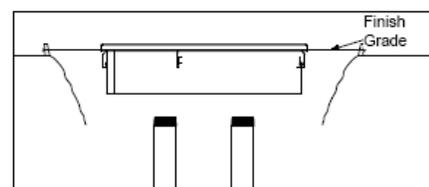

Figure 2
2. Set multi-port manhole assembly (skirt, ring, and cover) to 1 inch minimum (for slope) above the final grade position. The weight of the multi-port assembly must be supported when set into place, this may require a partial backfill and support structure. (See Figure 2.)
NOTE: Add an extra 3-1/4" when using an OPW FSA-400 and add an extra 1 3/4" when using the FSA-400S Face Seal Adaptor. (See Figure 2.) (Offset add extra 6"). Deburr and thoroughly clean riser pipe(s). Apply pipe dope to riser(s). The pipe dope is to be a non-hardening, gasoline resistant, pipe thread seal compound.